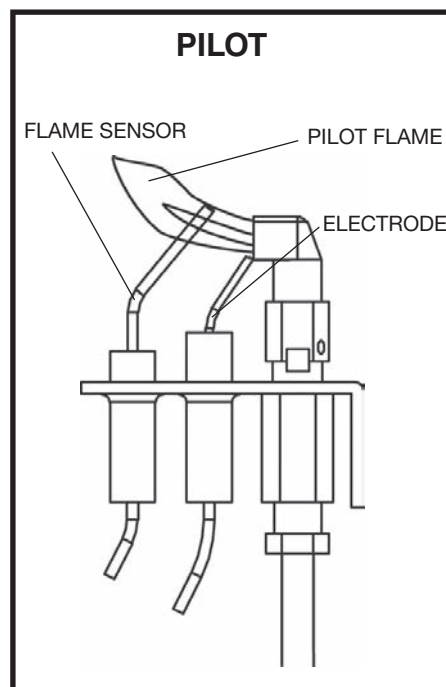

Figure 104: SIT pilot assembly.
- Check the pilot system for proper flame size and operation. Clean pilot free of soot, dust or any other deposits (Figure 104 and Figure 105). Have a qualified service person adjust the pilot flame.